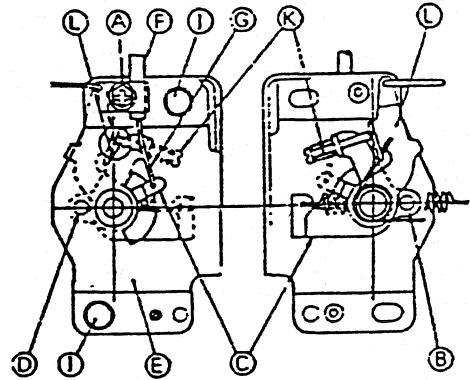

FIGURE 20
- Link throttle cable (G) to speed control lever (C) and clamp throttle cable outer housing (F) temporarily (Fig. 20).
- With throttle lever on dash in "FAST" position, align hole (B) of speed control lever (C) with hole (D) of control plate (E) and insert 5 mm (0.24 in.) dia. pin or 5 mm bolt through two holes (Fig. 20).
- Pull out throttle cable outer housing (F) to remove any slack and tighten cable clamp bolt (A) (Fig. 20).
- Remove 6 mm pin and set throttle lever on dash in "CHOKE" position. Make sure carb. choke valve is completely closed (Fig. 20).
- Loosen two control plate bolts (I) (Fig. 20).
- Align hole (B) of speed control lever (C) with hole (D) of control plate (E) and insert 6 mm (0.24 in.) dia. pin or 6 mm bolt through two holes (Fig. 20).
- Adjust fast idle speed for specified rpm (3275-3425 rpm) by moving control plate (E) (Fig. 20).
- Tighten two bolts (I) securely in a manner to avoid changing specified speed (Fig. 20).
- Stop engine, remove 6 mm pin, and set throttle lever on dash in "CHOKE" position. Make sure carb. choke valve is closed completely (Fig. 20).
- With engine cool, remove filter, and plug fuel line sections that were removed from both ends of fuel filter (fig. 20).